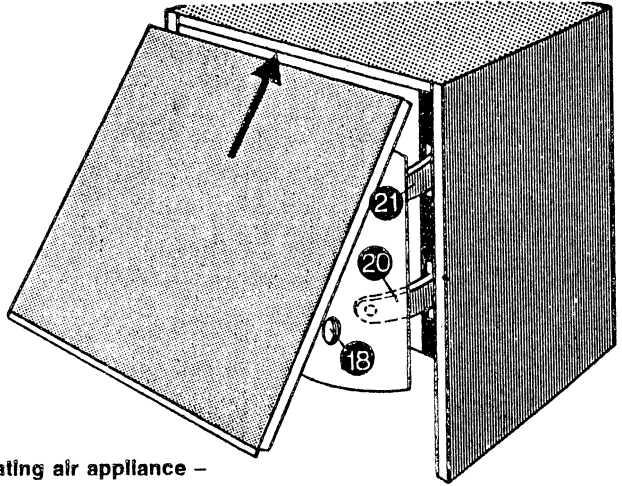

fig. 6 – exhaust air and recirculating air appliance –
2. Attachment of door to the cabinet (fig. 6); to do this,